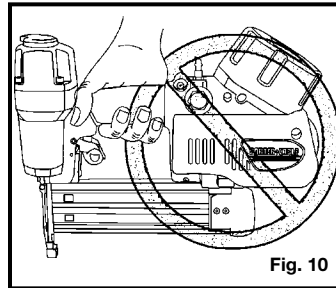

Fig. 10
17. REMOVE FINGER FROM TRIGGER when not driving fasteners. Never carry tool with finger on trigger. Fig. 10.